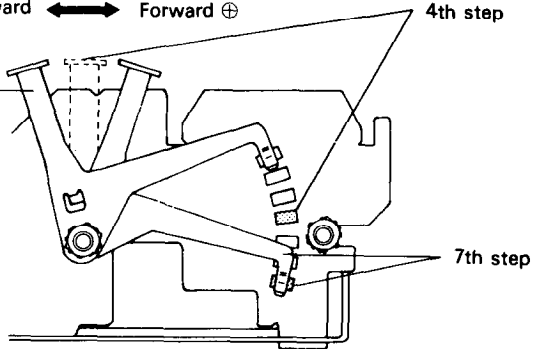

Fig. 46 Gap Adjustment
(See Fig. 46.)
- (3) Should printed characters become faint due to the use of the Printer for an extended period, move the head adjusting lever backward (in the \ominus direction) by one step. (See Fig. 46.)
- (4) When a set of carbon paper sheets is used, be sure that no characters are printed within the area two lines each above and below the perforation.